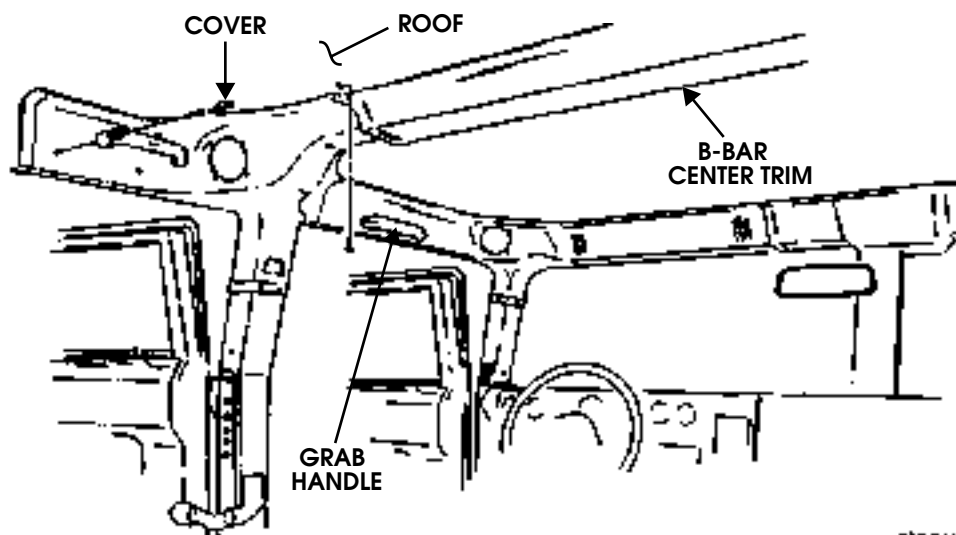

Figure 10-41: Driver's Compartment Trim Replacement
4. Remove covers, screws, and grab handle from trim. (Figure 10-41).